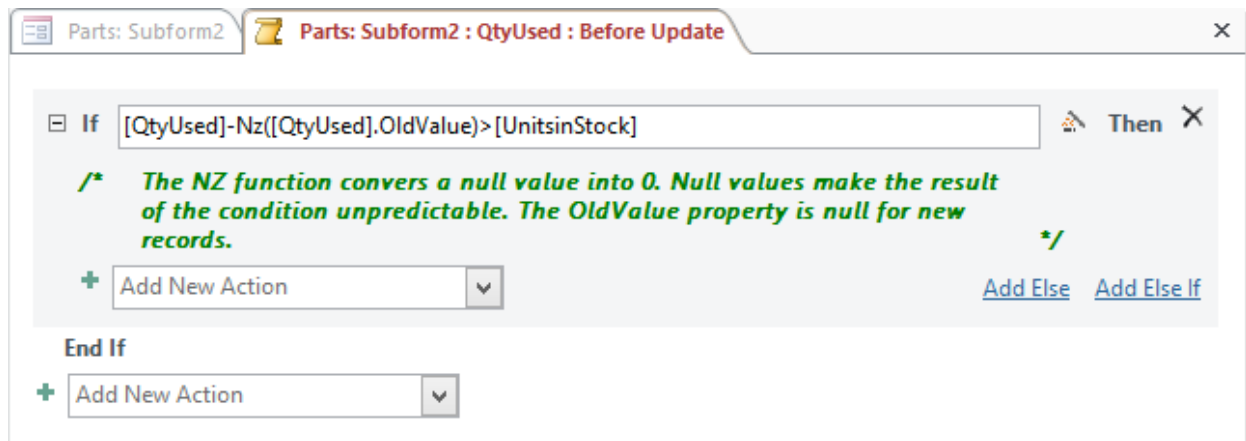

Figure 39: Comment Specified for the If Action
5. Document the Condition: Drag and drop a comment action from the Program Flow group in the Action Catalog to the *If* action in the Macro pane. Enter text in the *Comment* column to document the condition. Figure 39 shows the *If* action with the comment added.